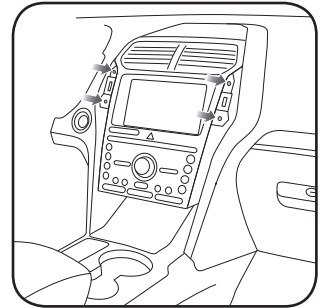

Fig. 1.2
2. Remove four (4) 7mm screws holding the radio and climate control panel. (Fig. 1.2)